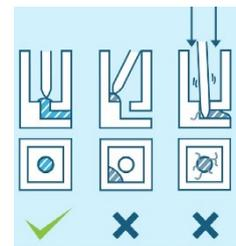

Figure 4: Gel seeding
- a. Gently place your pipette tip on top of the hole in the bottom of the well and dispense the cell-gel suspension. Contact between the pipette tip and the hole is essential for correct seeding. Correct positioning of the cell-gel suspension on top of hole allows capillary forces to pull the suspension into the microfluidic gel channel (see figure 4).